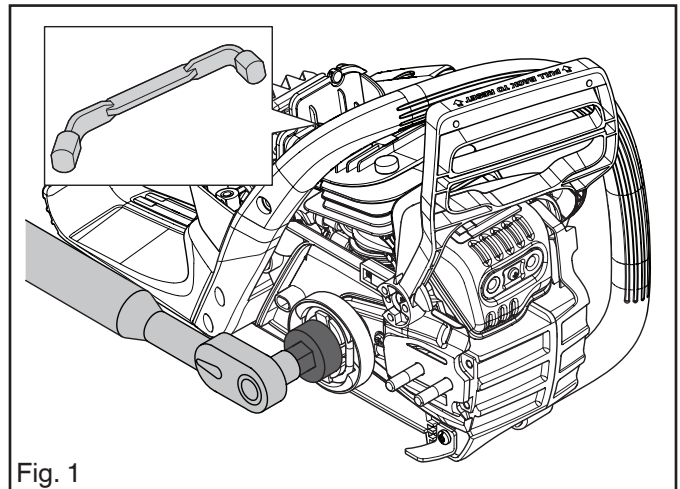

Fig. 1
5. Fit the special tool 530 03 11-12 on the centrifugal clutch. Use a socket wrench to loosen the centrifugal clutch. See Figure 1.